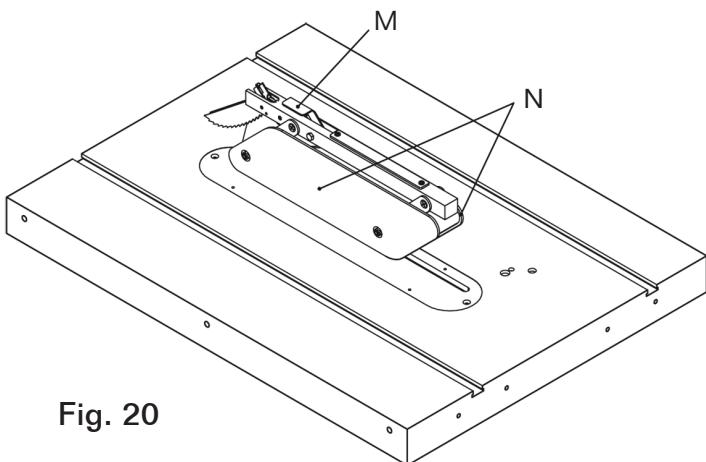
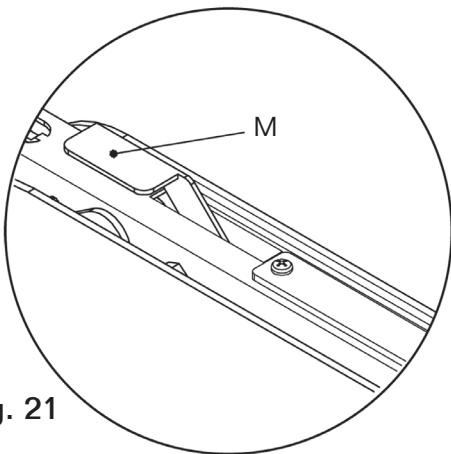

Fig. 20
Fig. 21
- Put down the guards(N) as Fig.20 and lock the handle(M), then fix the handle(M) as Fig.21.